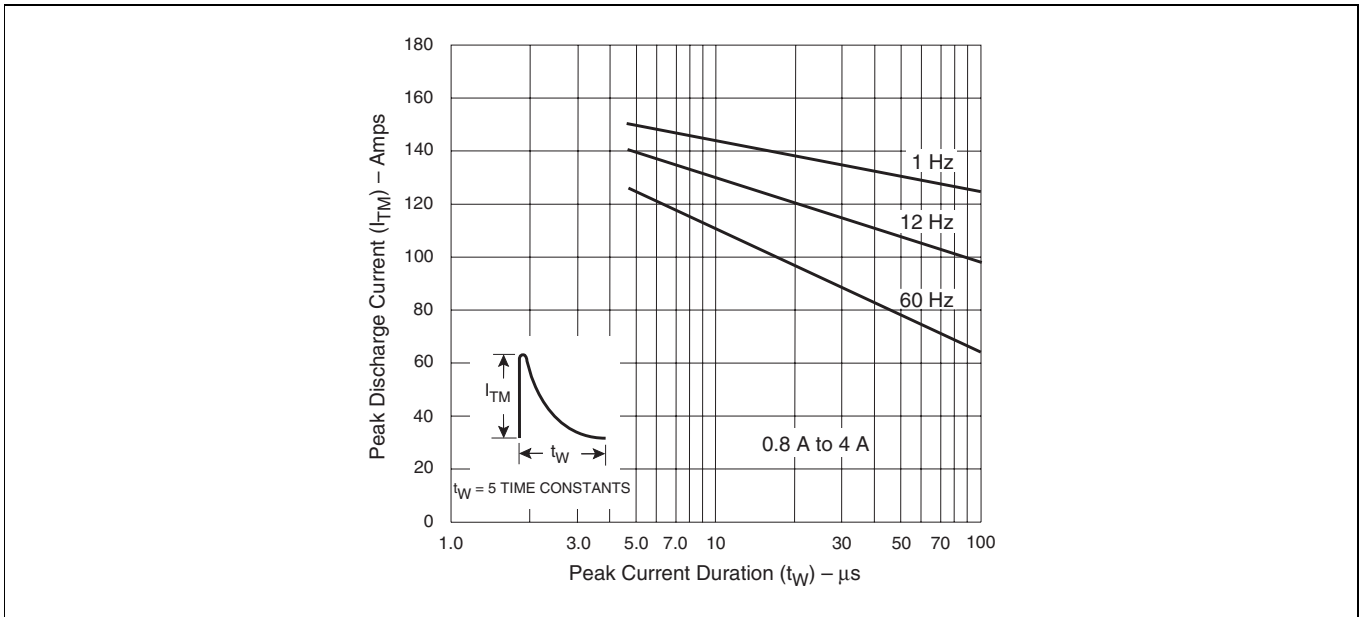

Figure E5.20 Peak Repetitive Capacitor Discharge Current
- 0.8 A to 4 A devices also have a pulse peak forward current on-state rating (repetitive) of 75 A. This rating applies for operation at 60 Hz, 75 °C maximum tab (or anode) lead temperature, switching from 80 V peak, sinusoidal current pulse width of 10 μs minimum, 15 μs maximum. See Figure E5.20 and Figure E5.21.